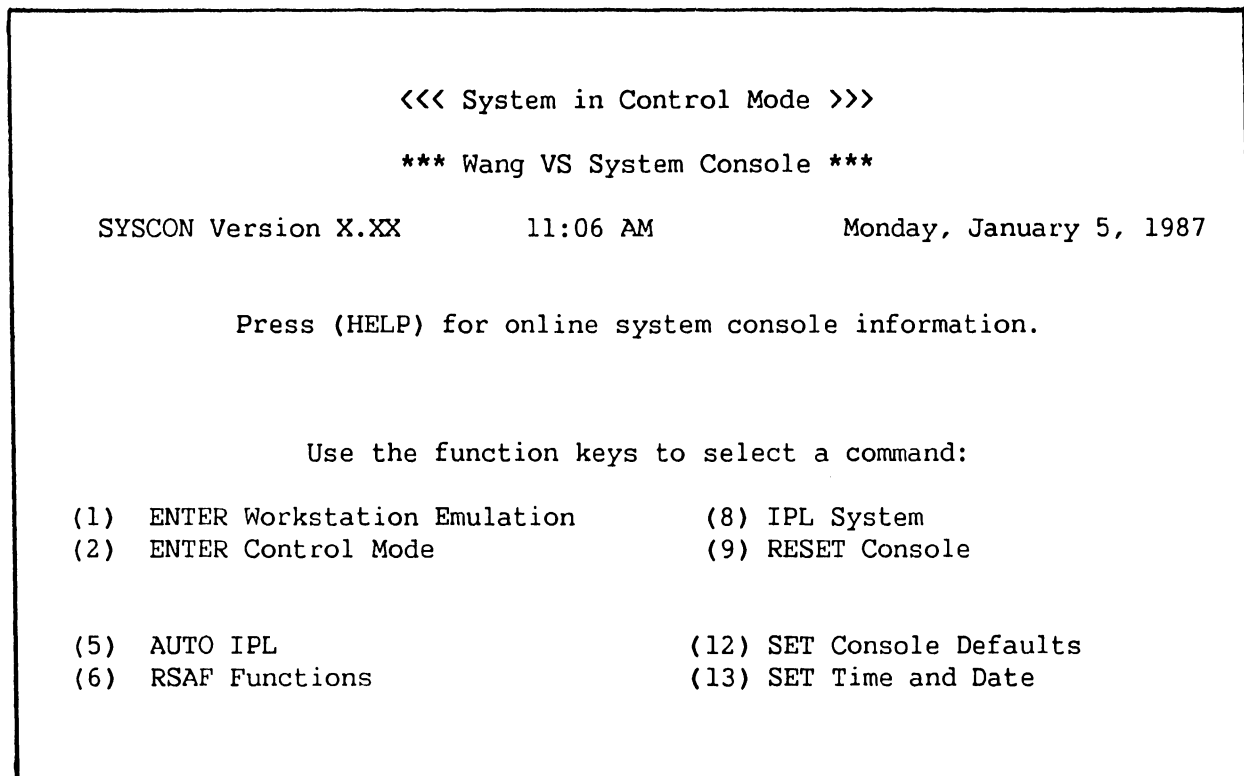

Figure 9-13. Console Processor Menu Screen
10. Press PF16 (Exit) and the Console Processor Menu screen (figure 9-13) reappears.